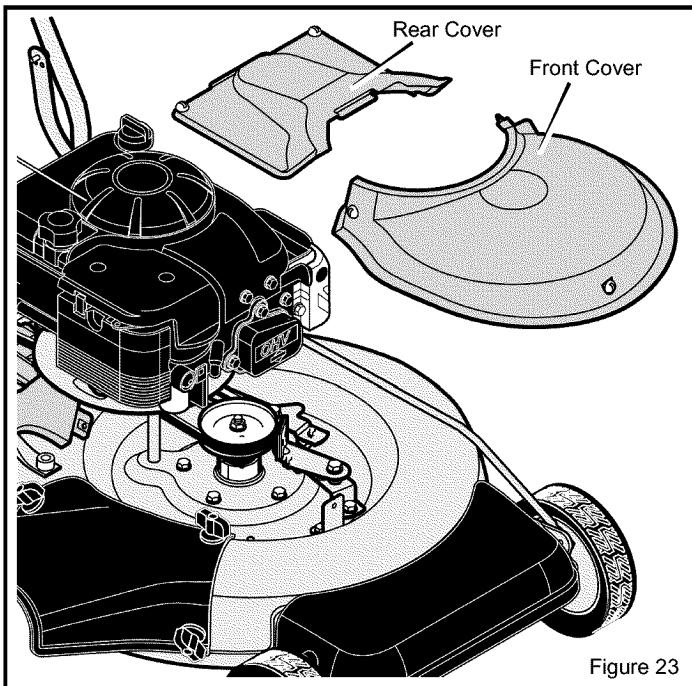

Figure 23
1. Remove the **front belt cover** (see Figure 23).
1. Remove the **rear belt cover** (see Figure 23).